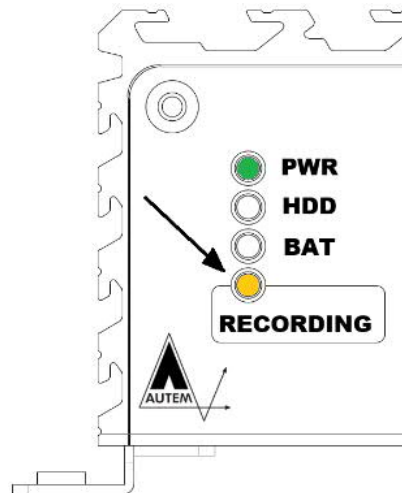

Fig. 4-1 RECORDING LED
- The RECORDING LED (*see Fig. 4-1*) flashes at intervals of one second when signal recording has been started successfully.